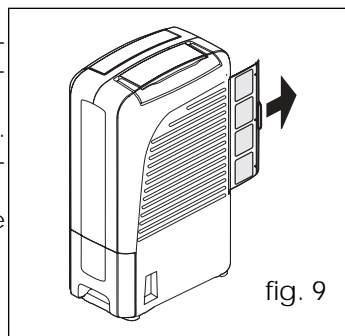

fig. 9
- Extract the filter using the handle (fig. 9).